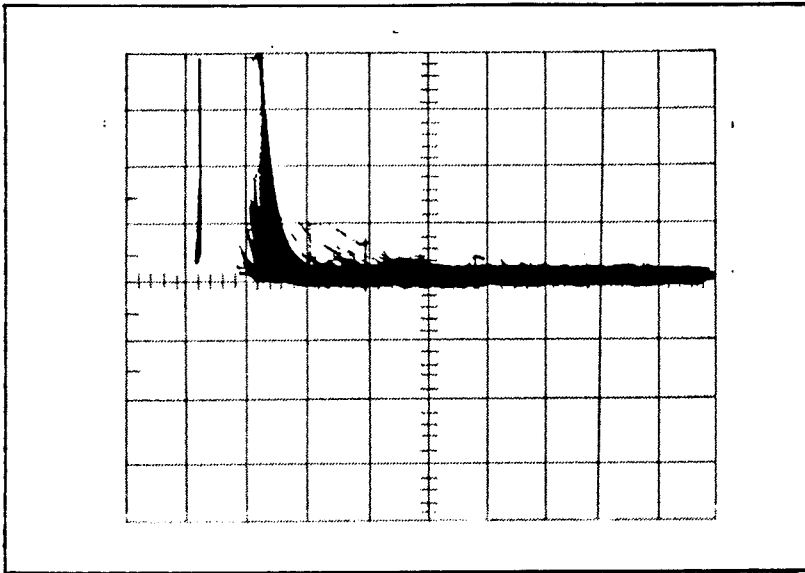
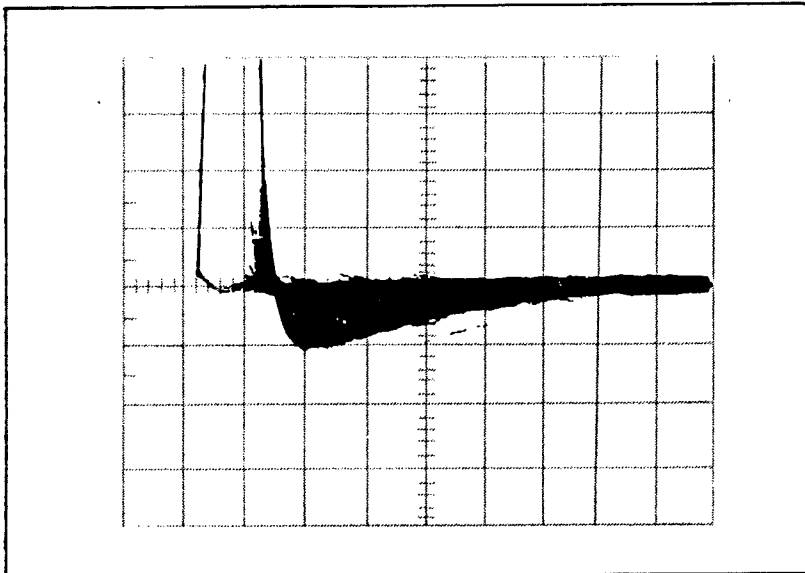

Figure 4-2a.
Figure 4-2b.
- a. The Pole/Zero is extremely critical for good high count rate resolution. See note 1 on page 4-5. Adjust the radiation source count rate between 2 kcps and 25 kcps. While observing the UNIPOLAR OUTPUT on the scope, adjust the Pole/Zero so that the trailing edge of the gaussian pulse returns to the baseline with no over or undershoots. Figure 4-2a. shows the correct setting of the Pole/Zero control, with Figures 4-2b. and 4-2c. showing under and over compensation for the preamplifier decay time constant. Notice some small amplitude signals with long decay times in Figure 4-2a. These are due to charge trapping in the detector and cannot be corrected by the Pole/Zero control.